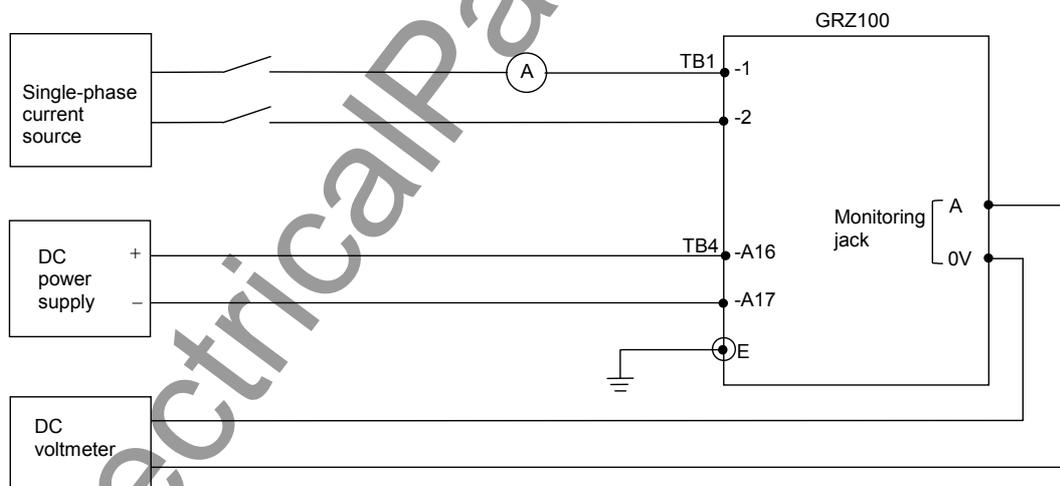

Figure 6.5.1.8 Testing Current Change Detection Element
- Apply a single-phase rated voltage to terminal 17 and 18 as shown with broken lines in Figure 6.5.1.5 and set the scheme switch [3PH-VT] to "Line". The test can be performed taking the same step as testing SYN1.
The test circuit is shown in Figure 6.5.1.8.